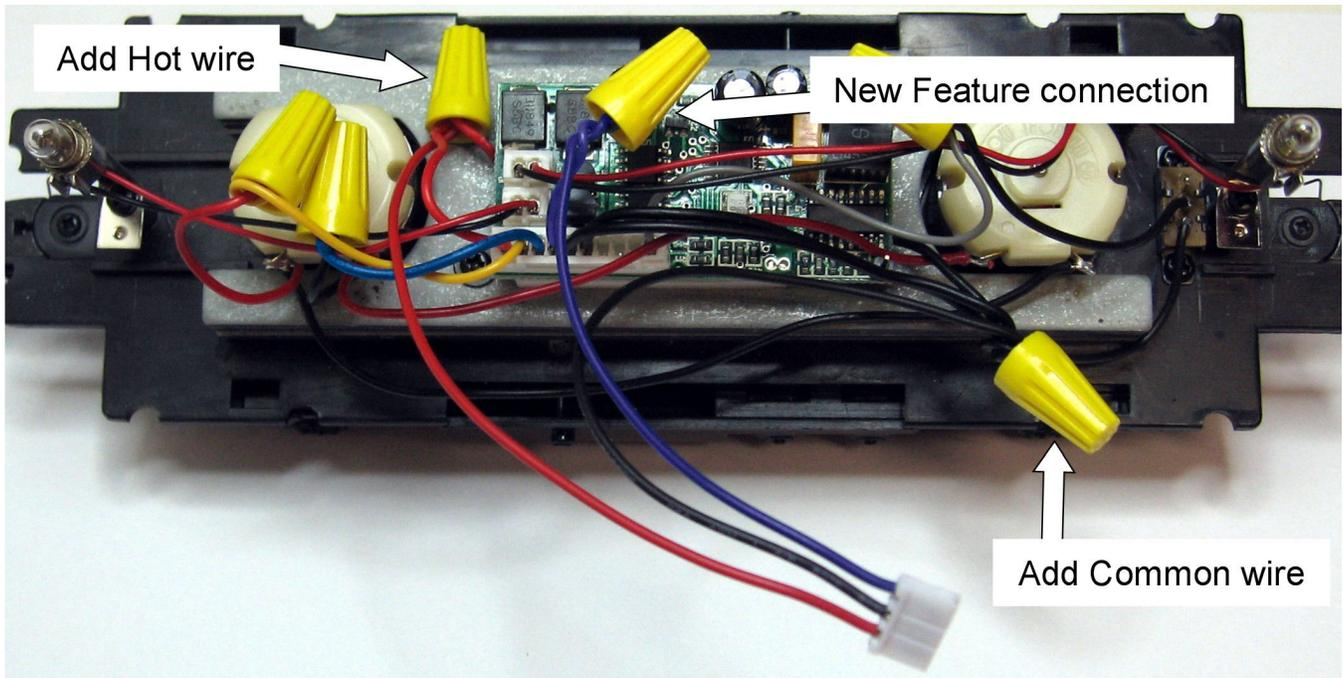

Figure 13 – Sound Commander 2 wiring
6. Refer to Figure 13 and carefully remove the wire nut from the Hot connection that was made earlier. Add the Hot (red) wire on the 3 position wire assembly to this connection and then replace the wire nut. Next, remove the wire nut from the Common connection that was made earlier. Add the Common (black) wire on the 3 position wire assembly to this connection and then replace the wire nut.
7. Using a new wire nut, connect the Feature (violet) wire on the 3 position wire assembly to the Feature (violet) wire on the 10 position wire assembly that is plugged into the Mini Commander 2 circuit board. Again, refer to Figure 13.